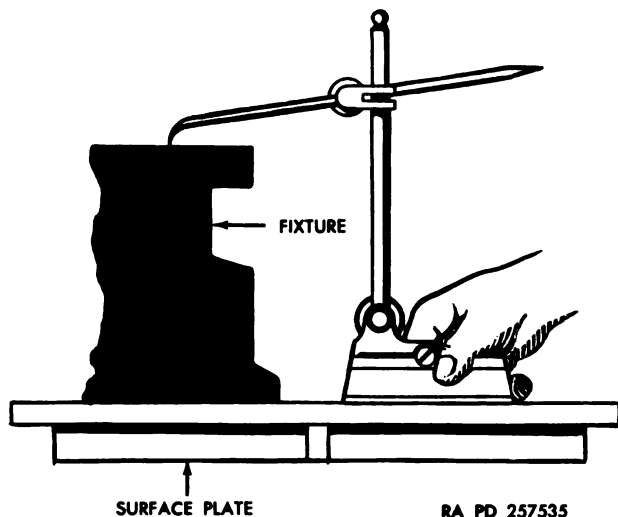

Figure 65. Locating point on fixture with surface gage.
- (b) A common use of the surface gage is to locate a point on a fixture, as shown in figure 65. Here again, the surface plate is used as a level base.